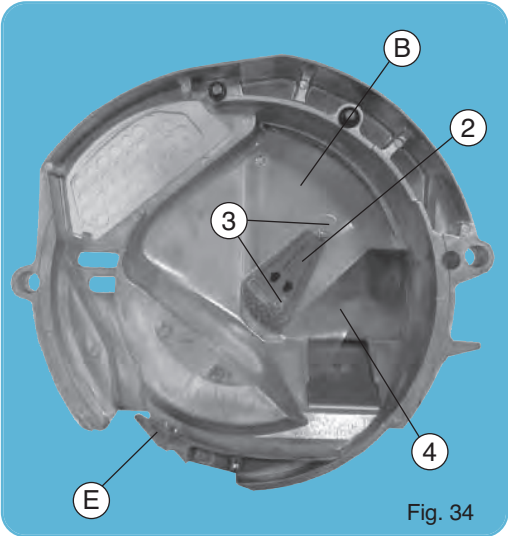

Fig. 34
1. HIGH POSITION (fig. 34) FOR LARGE SEEDS, i.e. corn, beans, soybean, peas, kidney beans, peanuts, cotton...
1. POZYCJA WYSOKA (fig. 34) DLA DUŻEGO ZIARNA, takiego jak kukurydza, fasola, soja, groch, bobik, orzech ziemny, bawełna...
1. POZIȚIA ÎNALTĂ (fig. 34) PENTRU SEMINȚE MARI, spre ex. porumb, fasole, soia, mazăre, fasole mare, arahide, bumbac.
1. ВИСОКО ПОЛОЖЕНИЕ (fig. 34) ЗА ЕДРИ СЕМЕНА, т.е. царевица, боб, соя, грах, фъстък, шарен боб, памук...